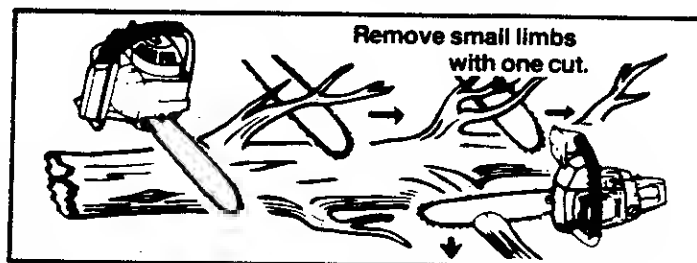

Figure 28
- c. **Start at the base of the felled tree and work towards the top, cutting branches and limbs.** Remove small limbs with one cut. Figure 28.